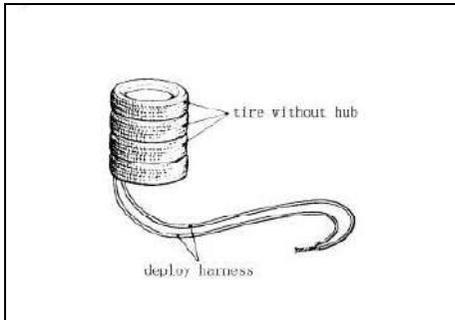

Fig 19-50
7) Place three old tyres without wheels on the tyre secured with the driver's air bag module. (See fig 19-50)